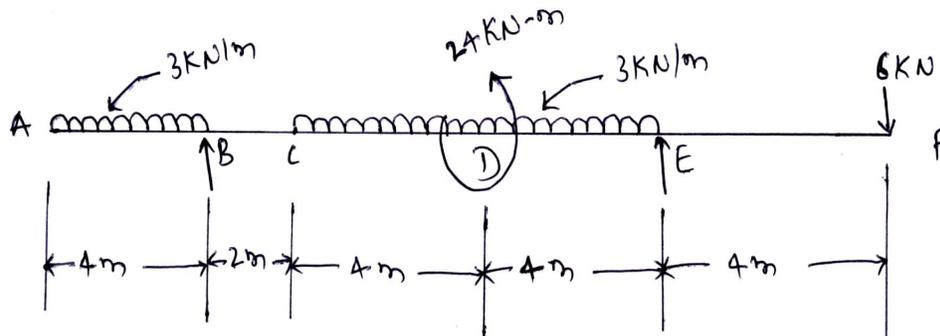

Fig.Q3(b)
- Draw the bending moment and shear force diagrams for the beams shown in Fig.Q3(b). Indicate the salient values on the diagram.